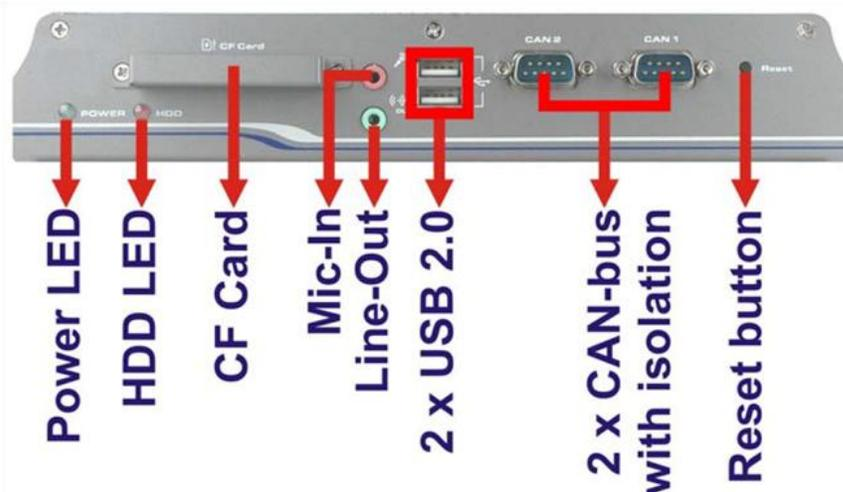
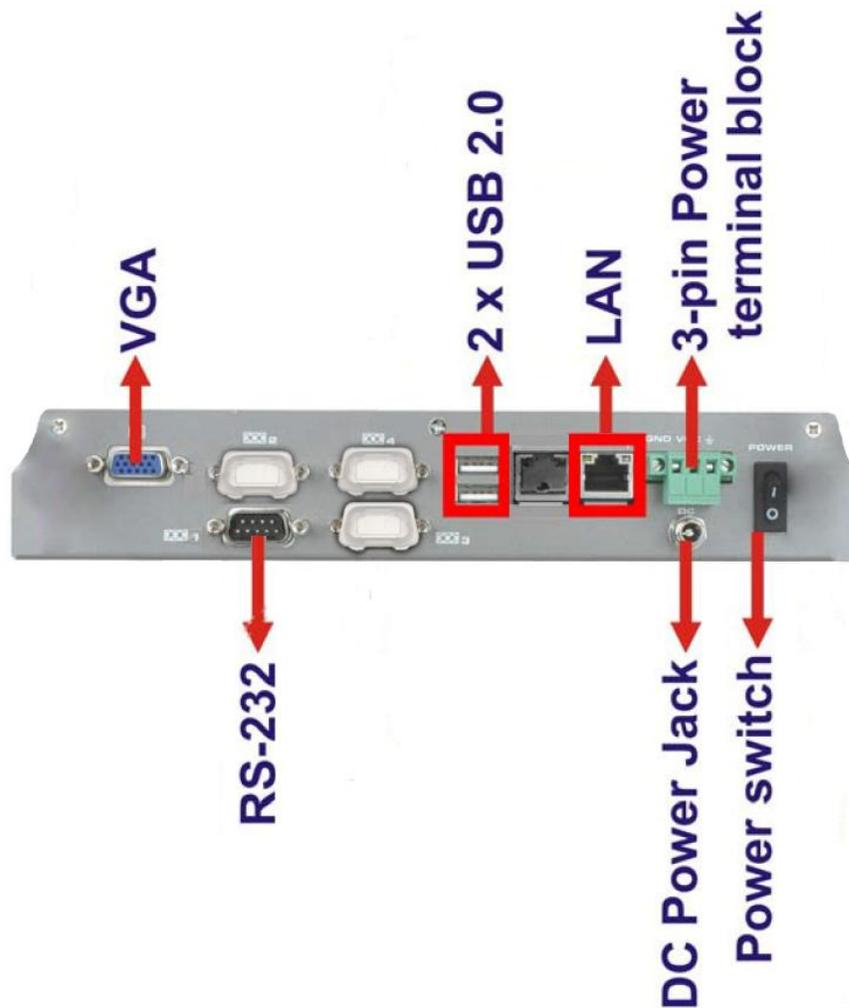

Figure 3 – MBB200C Front Panel Connections
Figure 4 – MBB200C Front Panel
Most I/O interface connections of the MBB200C are found on the front panel (see Figure 3). The I/O interface panel located on the front of the MBB200C has the following I/O interface connectors:
The I/O interface panel located on the rear of the MBB200C (see Figure 4) has the following interface connectors:
Step 1: The locations of the USB connectors are shown in Figure 3 and Figure 4.
When the MBB200C is connected to an appropriate power source, you can use the power switch located on the front panel (see Figure 4) to turn the MBB200C on or off. The MBB200C can also be switched on and off by applying or removing power through an external switch or breaker. Any time the power is reapplied to the MBB200C, it will turn on.